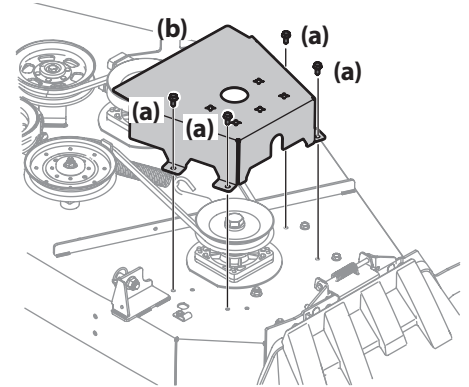

Figure 4-17
2. Remove the hex washer screws (a) securing the belt covers (b) to the deck. See Figure 4-17.
3. Remove the two idler pulleys (a & b) by removing the hex screws (c) and flange lock nuts (d) that secure them to the deck and the idler arm (e). See Figure 4-17. Do not lose any of the hardware (pulley caps (f), washers, belt guards (g) (if equipped)) when removing the hex screw (c) and flange lock nut (d).
5. Install the new belt around the spindle pulleys as shown and reinstall the belt covers (b). See Figure 4-17.